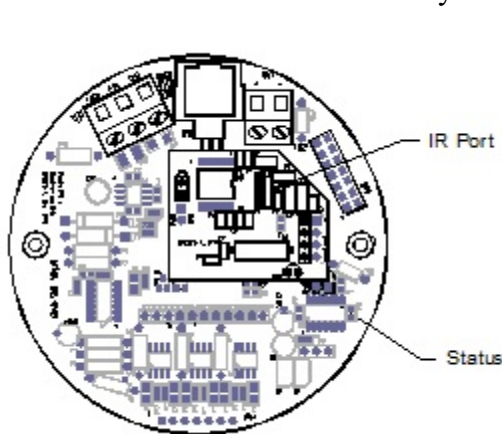

Figure 3 - Option -X, no display
1. Local Display Configuration — The Model 210 instrument with display option offers a user interface comprised of a 2x16 character LCD display, a status LED, and two proximity sensors. The LCD display can be used to display flow, temperature or totalization, and to execute certain instrument operations. To access choices using the display and proximity sensors, hold your finger over the ‘SCROLL’ button. The display will then scroll through a list of choices. Once the desired function is displayed, quickly move your finger over the ‘SELECT’ button to select the displayed function. Any time either button is ‘pressed’, the status LED (See Figures 3 and 4) will change from a short continuous burst to a steady single pulse.